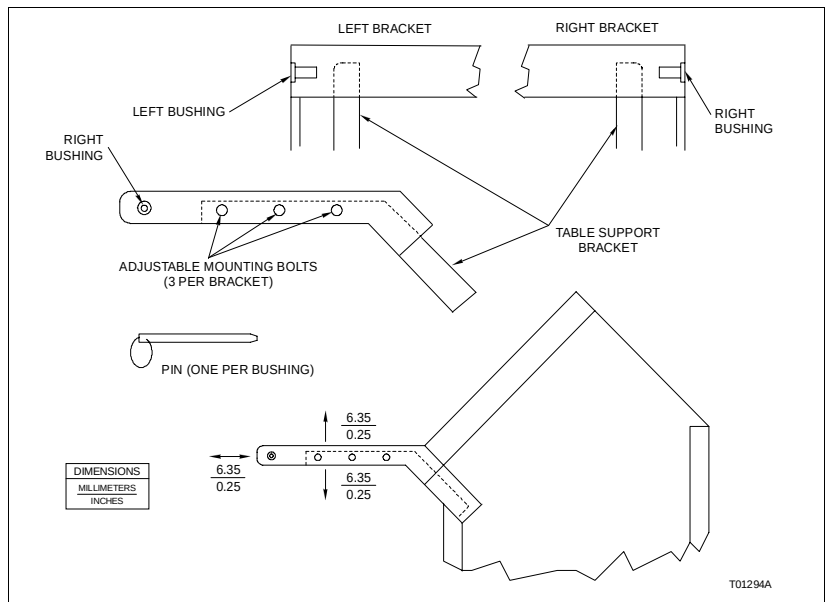

Figure PR4-1. Connecting Console Components
1. The work surface is bolted to the table support brackets through oversized holes. Use the ½-inch open end wrench to loosen the six bolts (three per table support bracket as shown in Fig. PR4-1).